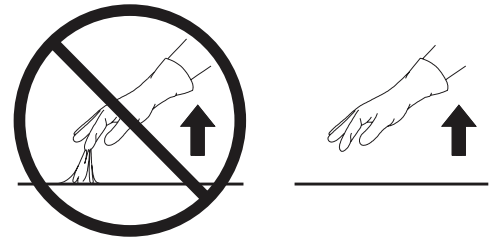

Figure 17
- a. Allow the P-50 to set. P-50 is set when it feels tacky but is no longer in liquid form and has a matte finish rather than a glossy wet appearance. P-50 dries quickly (to a set state) under most circumstances. Typical time for P-50 to set is two to three minutes under optimal conditions of 70°F (21°C) and medium to low humidity levels. For more information on P-50 application procedures see Information Folder 5.17. See Figure 17 on page 14.
- Allow the P-50 to set. P-50 is set when it feels tacky but is no longer in liquid form and has a matte finish rather than a glossy wet appearance. P-50 dries quickly (to a set state) under most circumstances. Typical time for P-50 to set is two to three minutes under optimal conditions of 70°F (21°C) and medium to low humidity levels. For more information on P-50 application procedures see Information Folder 5.17. (See Figure 17.)